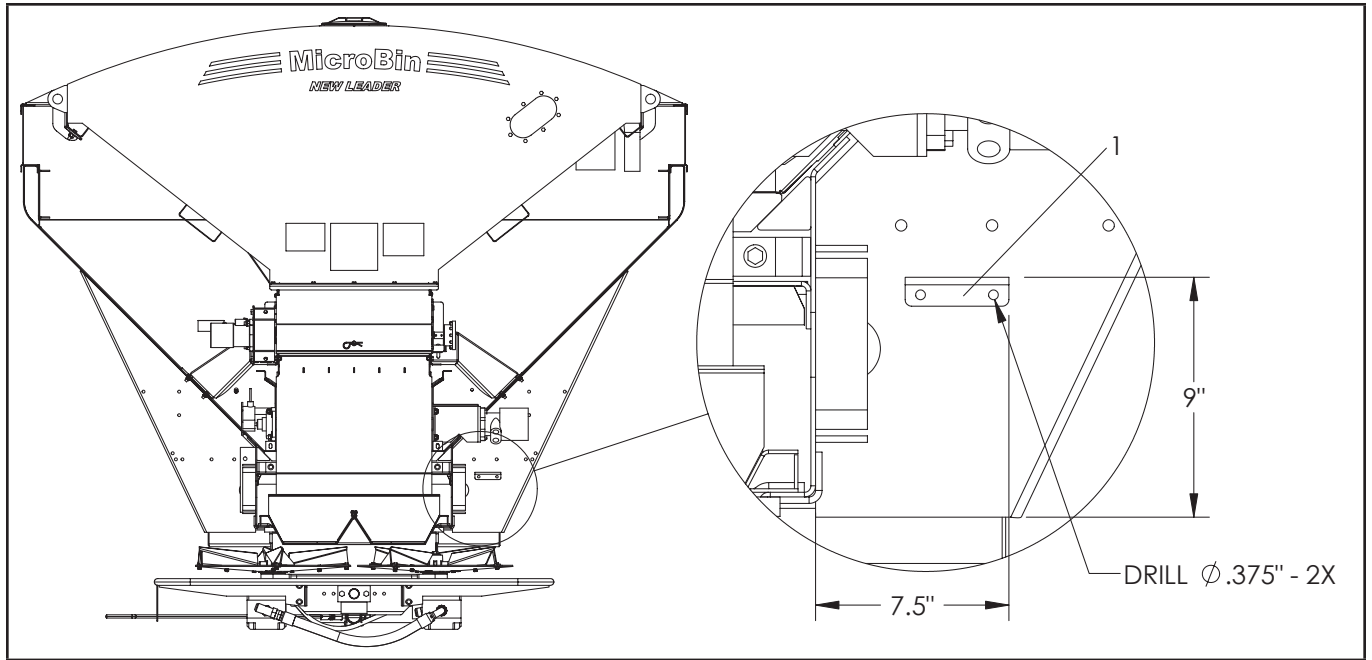
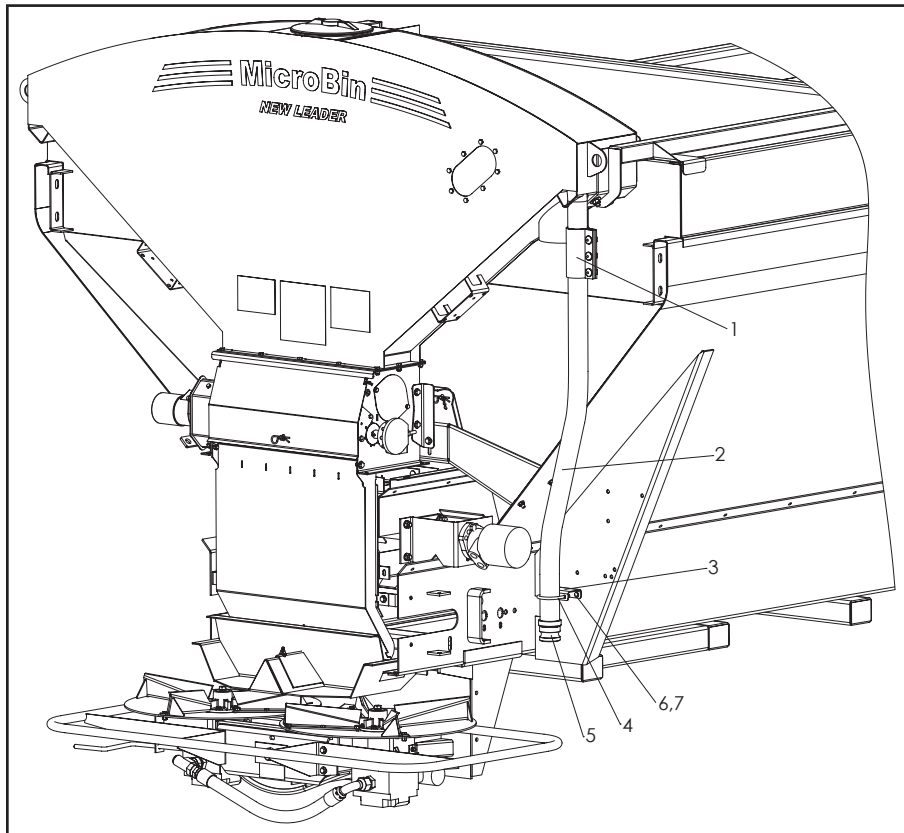

Figure 8 – Fill Pipe Bracket
Figure 9 – Extended Fill Pipe
1. Place Bracket (1) against stake as shown in Figure 8 and mark hole locations. Drill two 3/8" holes.
3. Determine orientation of Fill Pipe (4).
- Units with MULTAPPLIERS – long leg of pipe is on top as shown in Figure 9.
4. Weld Adapter (5) to bottom end of Fill Pipe.
5. Slide Coupling (6) over top of Fill Pipe and insert pipe on MICROBIN into Coupling. Tighten Coupling.
6. Place U-Joint (7) over Fill Pipe and fasten to Bracket.